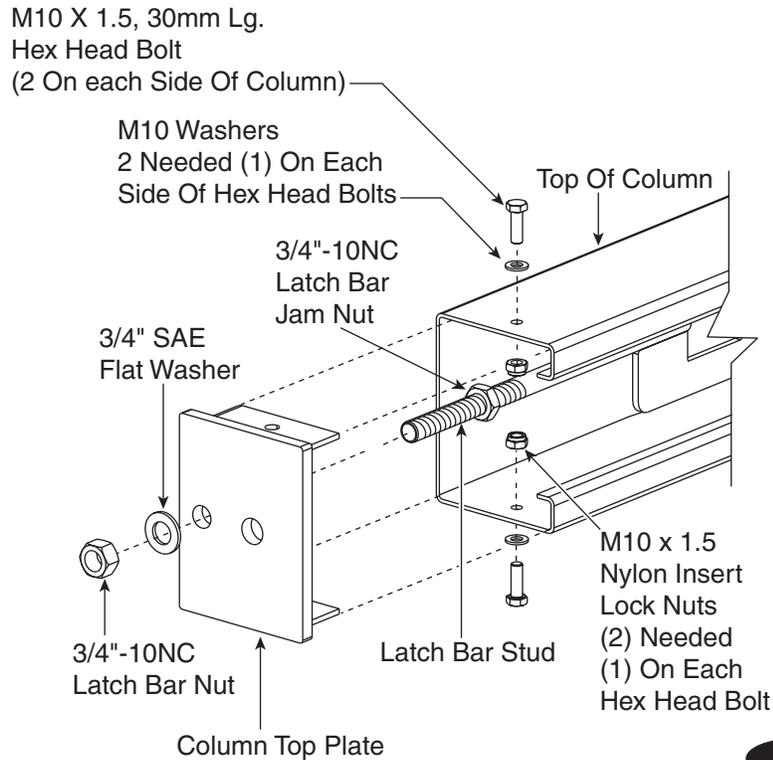

Fig. 8
A.) Install (1) column top plate in each column, Fig. 8. Make sure latch bar jam nut is located far enough down the latch bar stud to allow you to fully insert the column top plate in the top of the column.